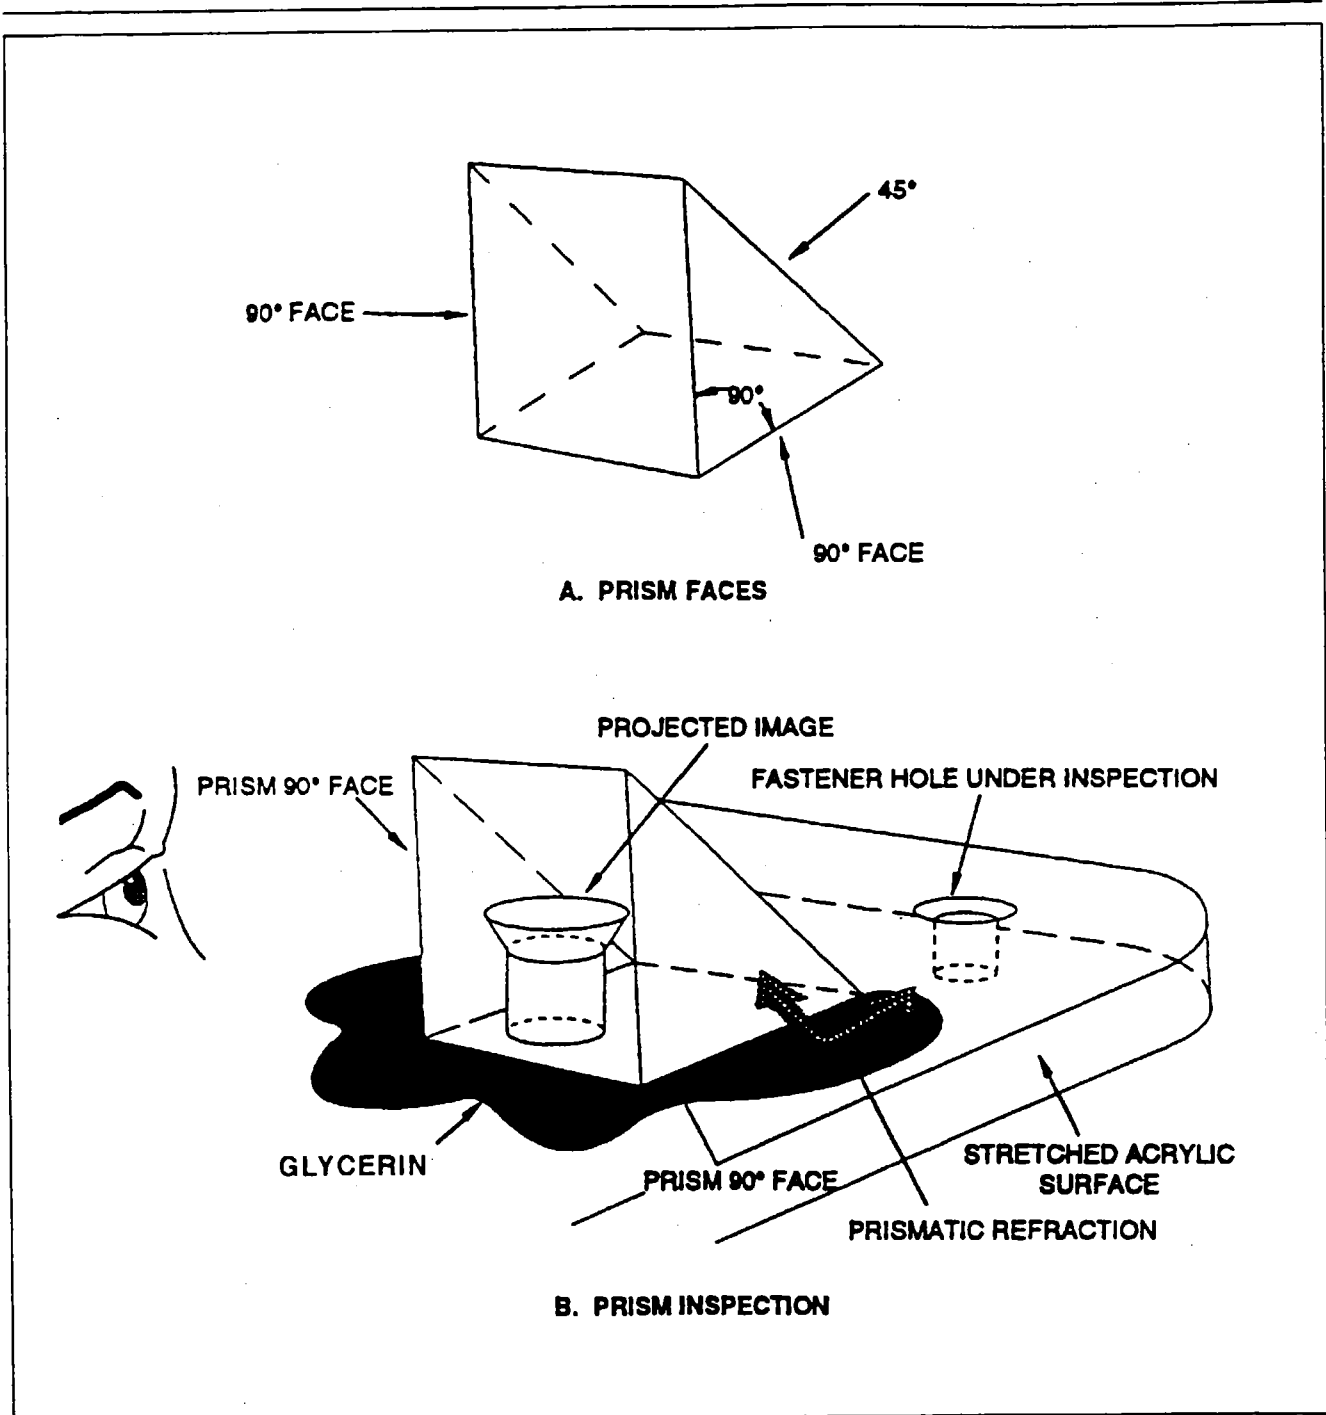

Figure 14-APP-2. Visual Inspection
- (f) If hole is countersunk, cylinder will appear to have a cone setting on one end as seen in Figure 14-APP-2.
- (g) The image of a cracked hole will appear as a frosty or reflective projection extending from the hole (see detail A-A, Figure 14-APP-3).